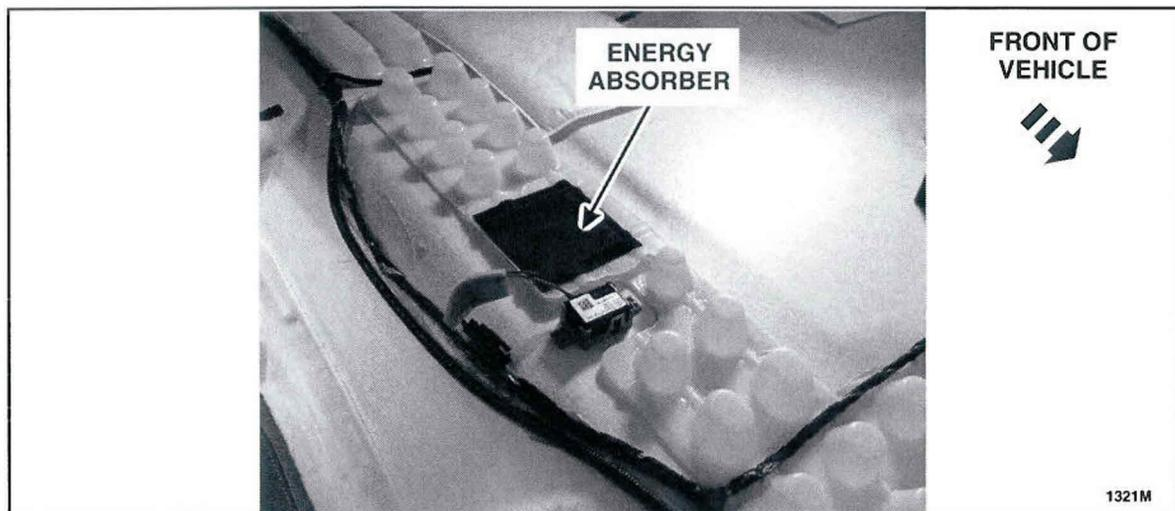

FIGURE 15
19. Remove the backing from the two sided tape on the RH and LH energy absorber. Attach the RH and LH energy absorbers to the headliner. See Figure 15.